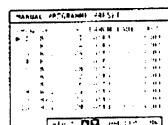

Fig. 17.
- Select Manual Programme Preset with $\Delta+$ or $\nabla-$ and press OK. The MANUAL PROGRAMME PRESET menu appears. (See Fig. 17.)